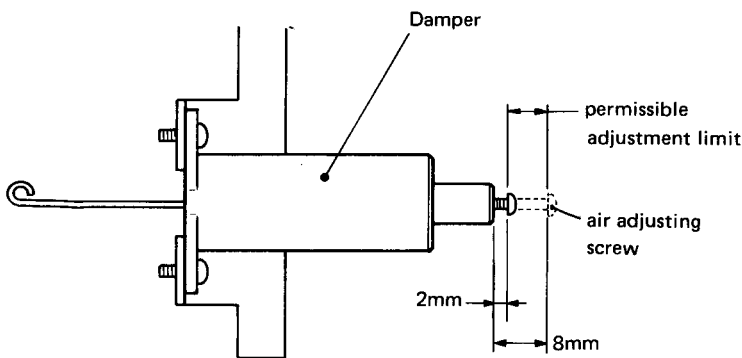

Fig. 4-2
**Note:** Be careful not to turn the screw beyond permissible adjustment limit shown in Fig. 4-2.